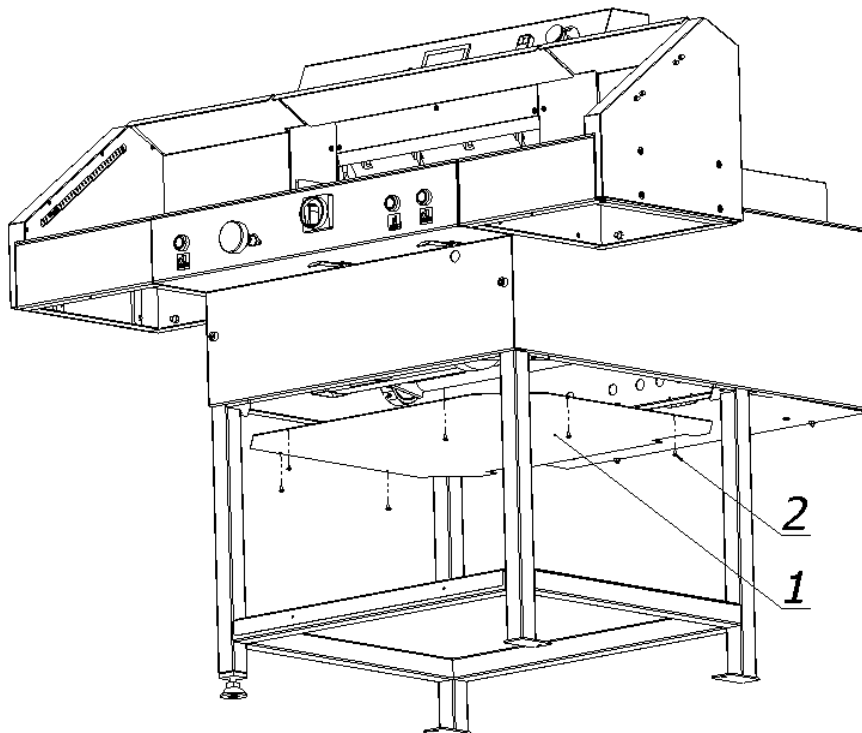

Figure 43. Method for unscrewing the bottom cover (1)
2. Remove the lower cover 2 (fig. 43)